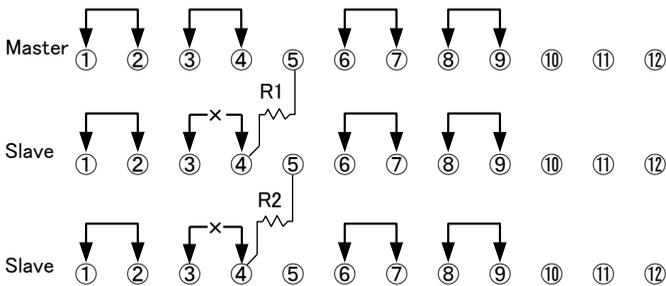

Fig. 12
- 2) Remove the short bar ③—④ of each slave unit.
- 3) Connect external resistor R as shown Fig. 12.